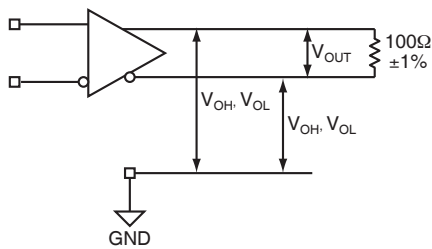

Figure 1a. LVDS Differential Measurement
11. Measured as per Figure 1a, 100Ω across Q and /Q outputs.